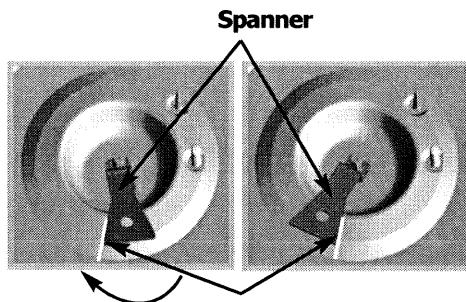

Fig. 2
- ⇒ With a pencil draw a line on the hearth plate as indicated (**fig. 2**).